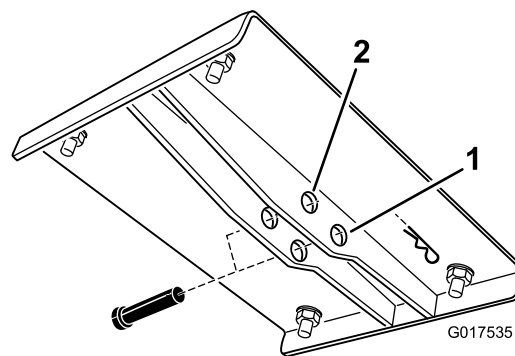

Figure 10
12. Locate the two sets of holes in the upper lift bracket (Figure 10). Select the set of holes in the bracket for the electric vehicles.